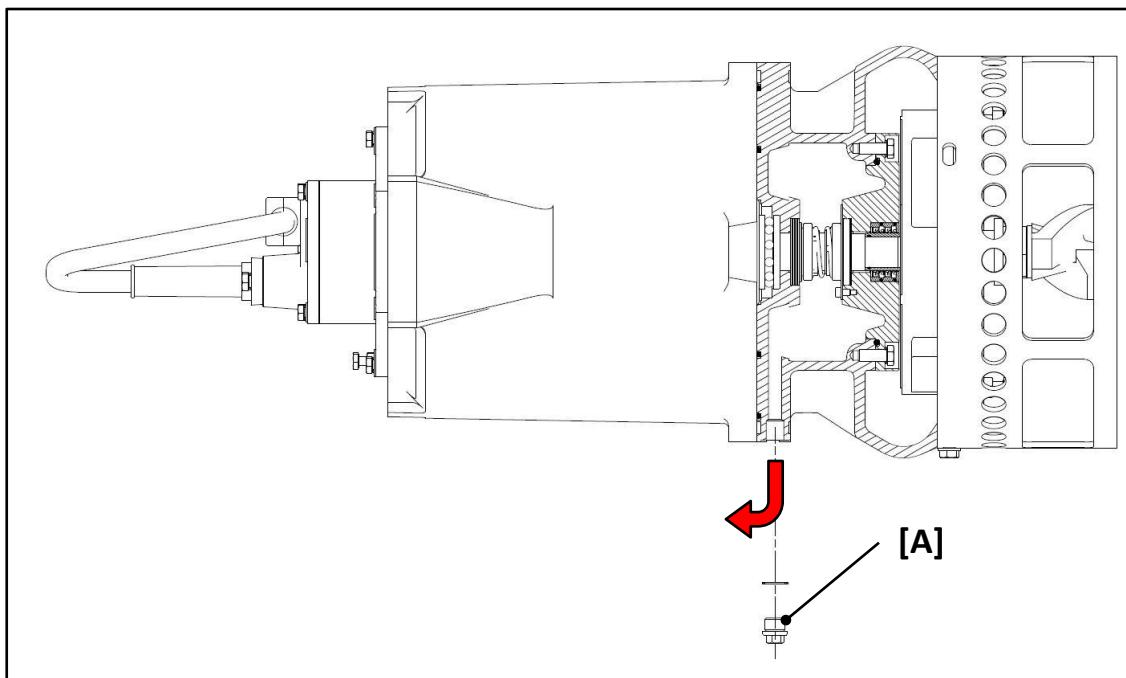

Fig. 20
- removing the “OIL” plug [A] and its copper washer, let the existing oil exiting completely from the oil chamber (see Fig. 20);